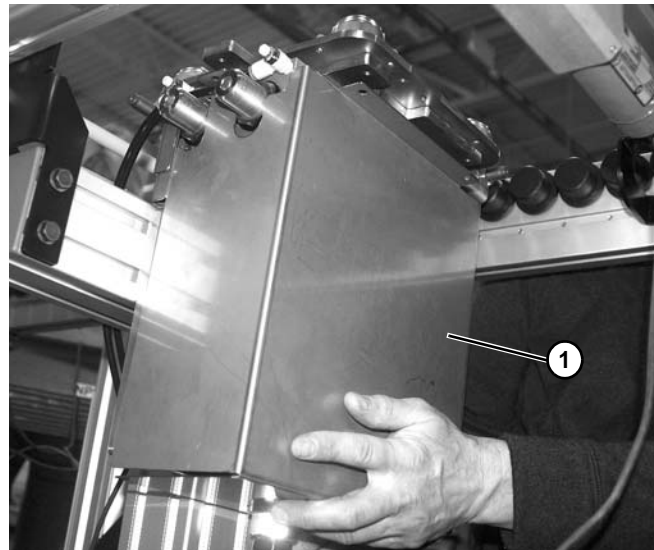

Figure 99
3. Remove cylinder guard (**Figure 99, item 1**) from around cylinder assembly.